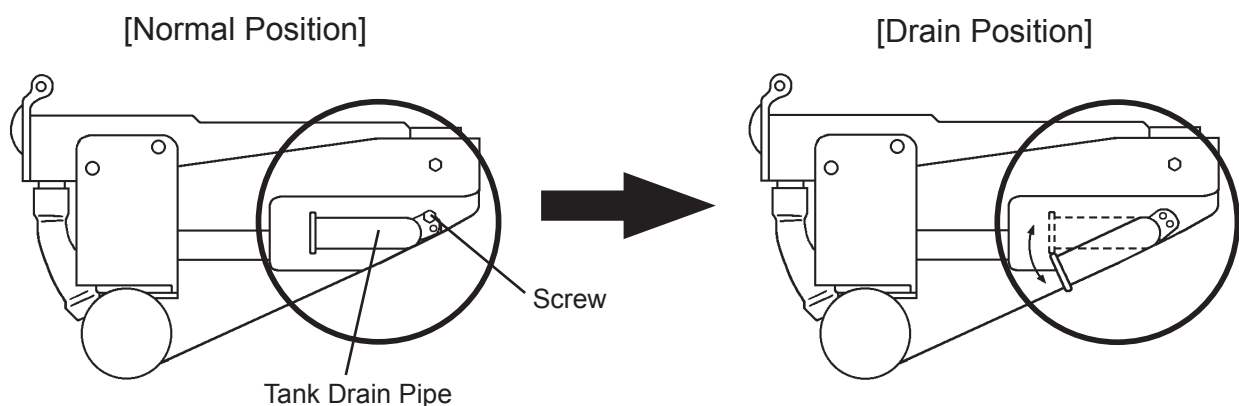

Fig. 8
- 1) Remove the screw located on the front of the water tank. Move the tank drain pipe to the drain position (see Fig. 8). Secure the tank drain pipe with the screw.